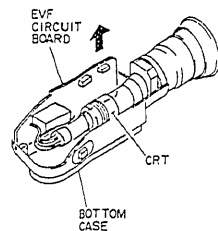

Fig. 2-152
- 1) Remove the EVF circuit board and CRT in the direction of the arrow from the bottom case. (See Fig. 2-152)